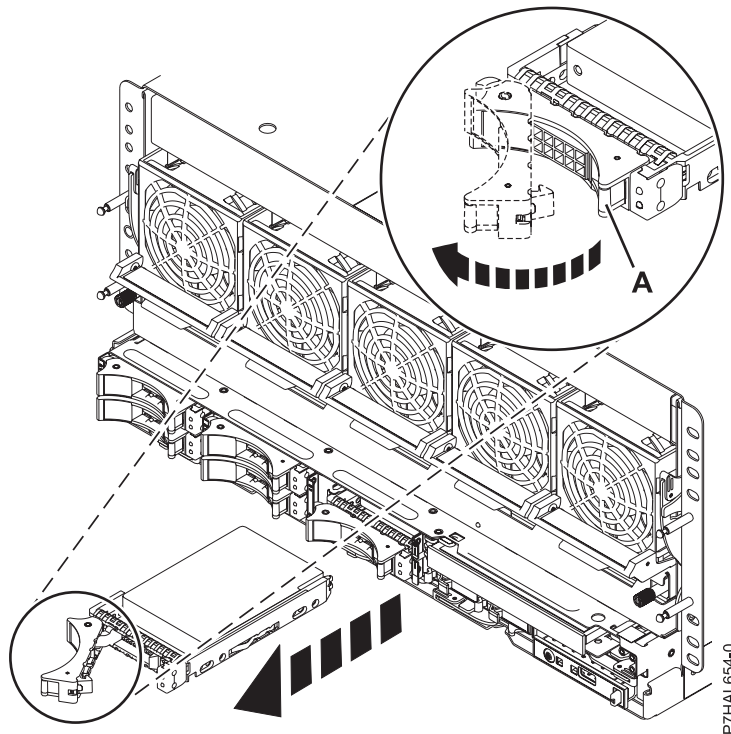

Figure 18. Removing a disk drive from the system
1. Unlock the drive handle by squeezing it and pulling it out toward you, as shown in Figure 18 on page 31.